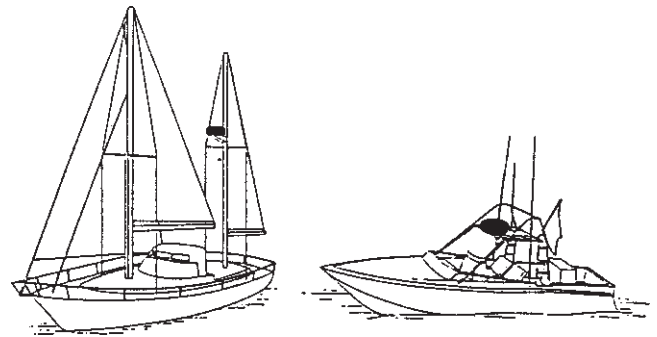

Figure 5-1 Typical antenna unit mounting location for sailboat and power boat
- Typical mounting location for a sailboat and power boat are shown in Figure 5-1.